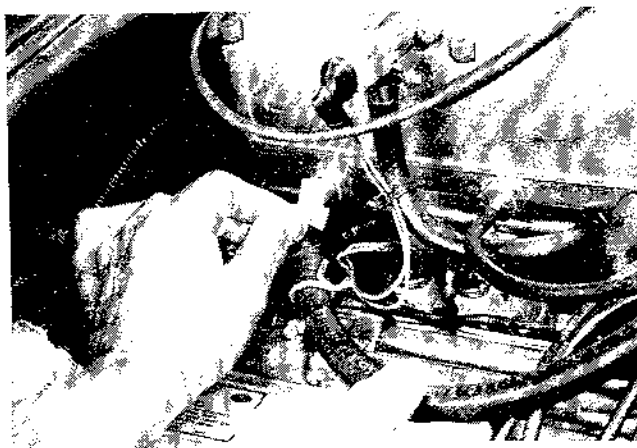

Fig.10
- 1 Disconnect the brake servo, and seal the union connection at the plenum chamber as shown in fig. 10.